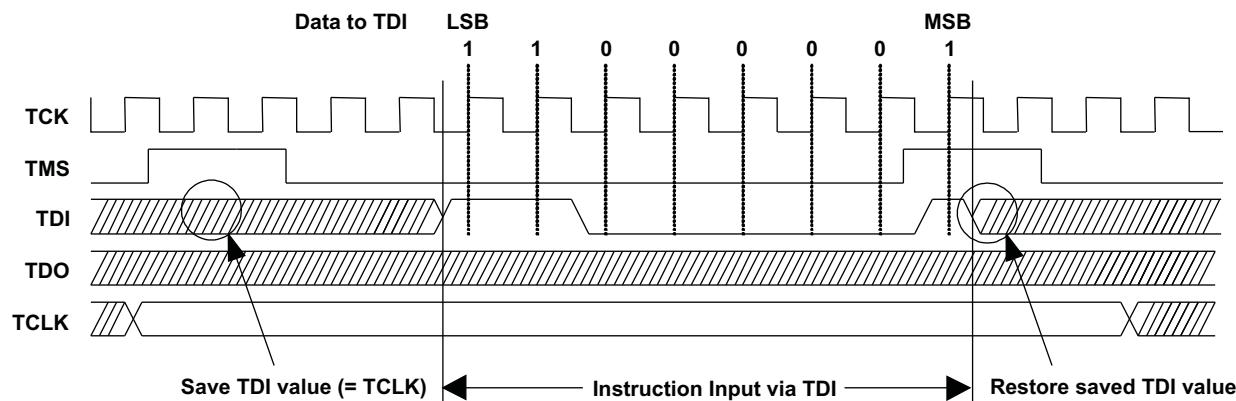

Figure 1-2. Timing Example for IR_SHIFT (0x83) Instruction
This macro loads a desired JTAG instruction into the JTAG instruction register (IR) of the target device. In the MSP430, this register is eight bits wide with the least significant bit (LSB) shifted in first. The data output from TDO during a write to the JTAG instruction register contains the version identifier of the JTAG interface (or JTAG ID) implemented on the target device. Regardless of the 8-bit instruction sent out on TDI, the return value on TDO is always the JTAG ID. Each instruction bit is captured from TDI by the target MSP430 on the rising edge of TCK. TCLK should not change state while this macro is executed (TCLK = TDI while the TAP controller is in the Run-Test/Idle state). Figure 1-2 shows how to load the ADDR_16BIT instruction into the JTAG IR register. See Section 1.2.4 for a complete list of the JTAG interface communication instructions used to access the target device flash memory module.